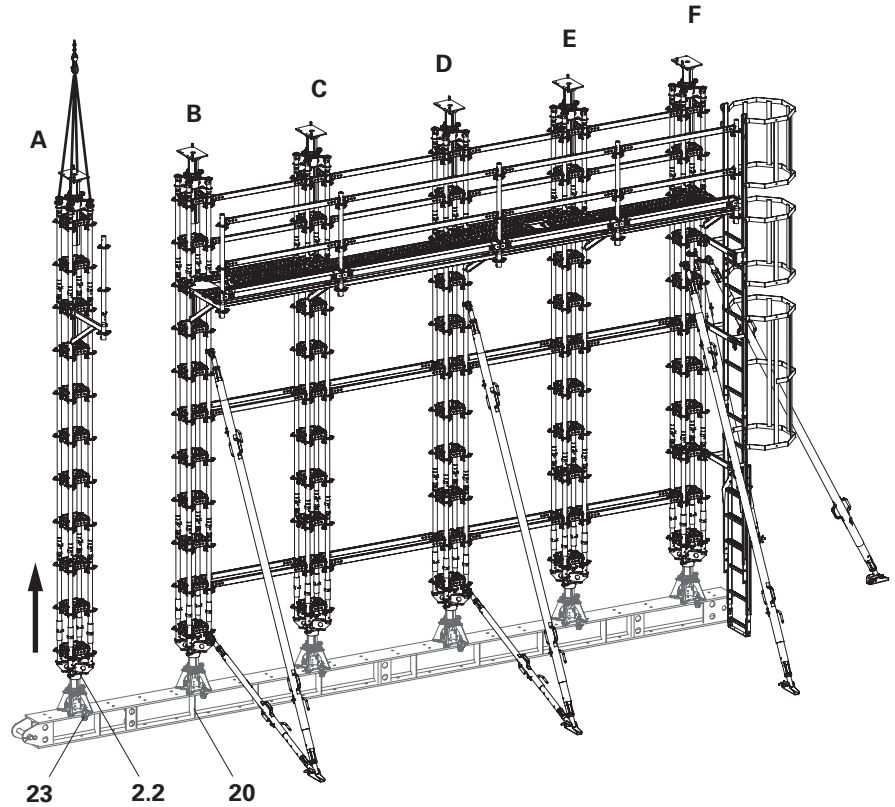

Fig. A7.11
- 5. Lift the Heavy-Duty Prop HD and set it down. (Fig. A7.11)
- 6. Remove both girder clamps (23) from the lower Main Beam HDT (20).